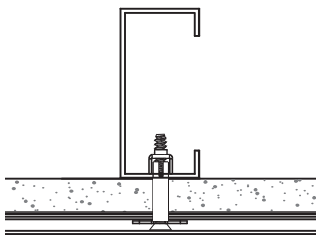

Fig. 9
- o **WARNING** Care and accuracy are required when mounting Snap toggles in to thin gauge metal studs. Only professional installation personnel or properly trained individuals should attempt to drill 1/2" holes into thin gauge metal studs as depicted in **Figure 9**.
- o **WARNING** The Snaptoggle arm spreads and then anchors into a vertical or near vertical orientation when the mounting hole is placed correctly at the center of the metal stud as depicted in **Figure 9**. Improperly placed holes can render the Snaptoggle useless and leave the intended mounting locations unusable. Shifting the rail laterally and re-drilling holes that leaves a complete set of unused holes can compromise the integrity of the sheetrock.